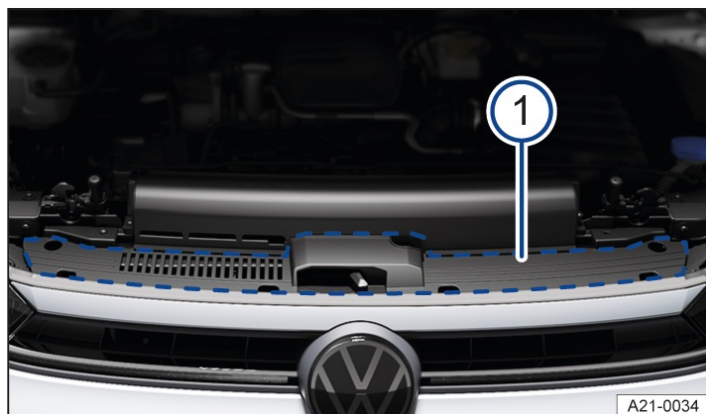

Fig. 2 At the side next to the bonnet release: sticker for engine oil standard and engine oil viscosity.
- ① Information about the engine oil standard.
- ② Information about the engine oil viscosity.
The sticker showing the prescribed standard is located at the front of the engine compartment, on the side next to the bonnet release → *Fig. 2* ①.